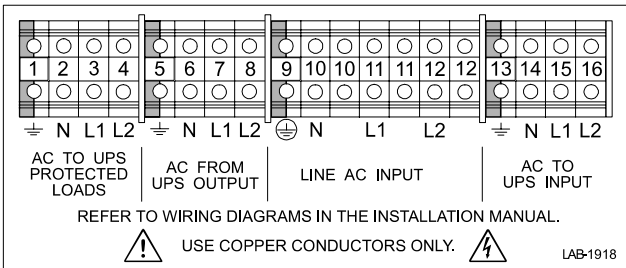

Figure 22. Bypass Switch Wiring Label
6. Find the terminal strip inside the bypass switch cabinet. Using the label on the back of the bypass switch access panel and the proper installation wiring diagram, make the terminal strip connections and tighten all connections as specified in Table 2 on page 27. Use copper wire that is the appropriate size for the current draw. Figure 22 shows a sample label.